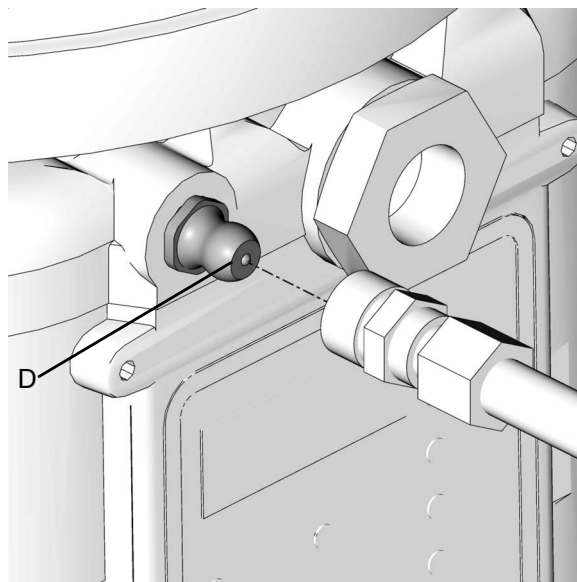

FIG. 18
- Always clean the fitting (D) (FIG. 18) with a clean dry cloth prior to filling the reservoir. Dirt and/or debris can damage the pump and/or the lubrication system.
1. Connect the fill hose to the Zerk inlet fill fitting (FIG. 18)
2. Connect the fill hose to the zerk inlet fill fitting (see FIG. 18).
1. Connect the fill hose to the zerk inlet fill fitting (see FIG. 18).